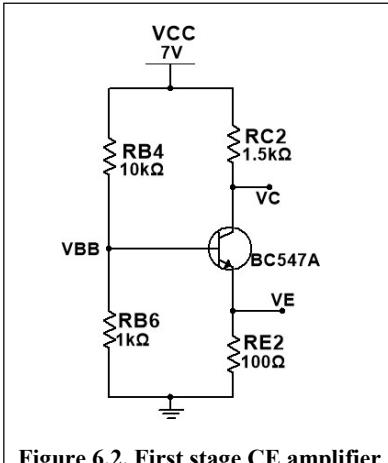
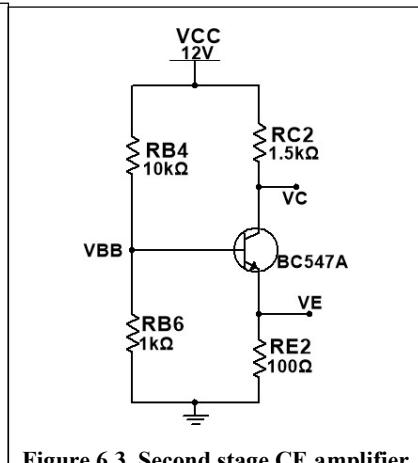

Figure 6.2. First stage CE amplifier
Figure 6.3. Second stage CE amplifier
1. Make circuits as shown in **Figure 6.2** and **Figure 6.3**.